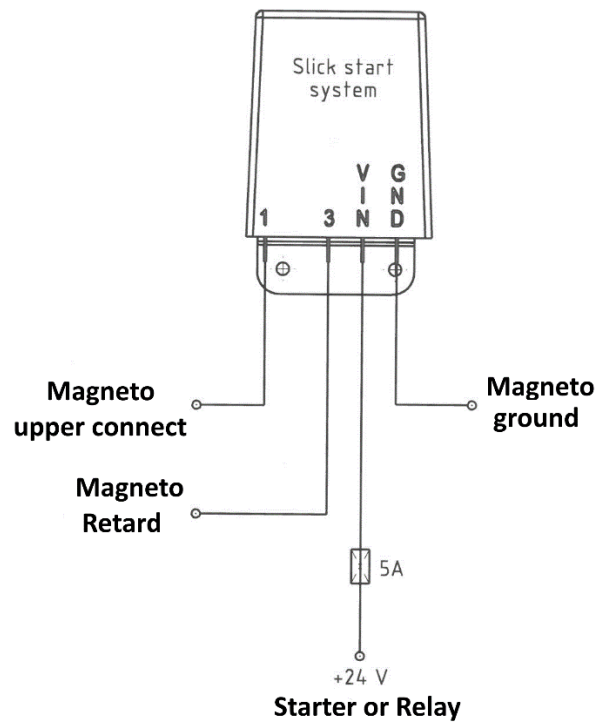

Fig. No. 2
3. Perform the electrical connection according to the Figure No. 2.